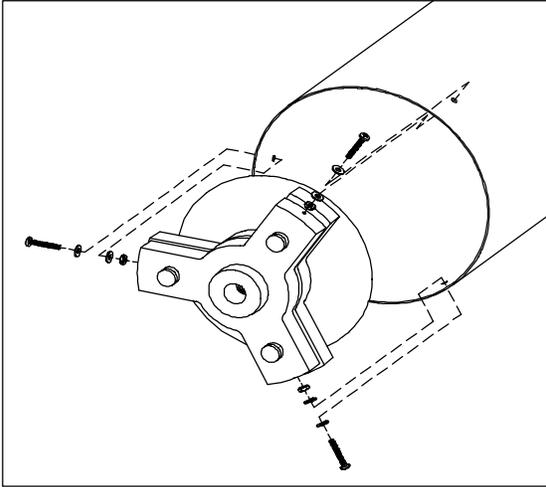

Figure 6 -- Aluminum tube only
5. From the inside of the tube, place a second washer onto the screw and thread one of the hex head nuts half way onto the screw (See Figure 6).